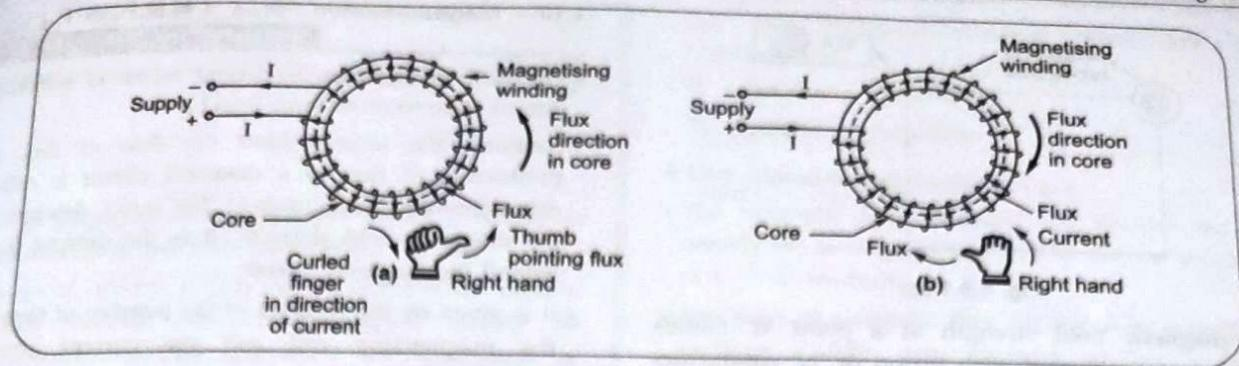

Fig. 1.8.12 Use of right hand thumb rule for toroid
- In case of toroid, the core is circular and right hand thumb rule can be used as shown in the Fig. 1.8.12 (a) and (b).
- In the Fig. 1.8.12 (a), corresponding to direction of winding, the flux set in the core is anticlockwise while in the Fig. 1.8.12 (b) due to direction of winding, the direction of flux set in the core is clockwise.